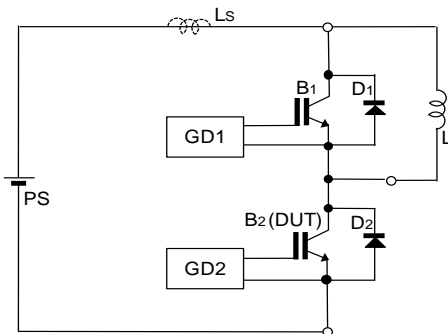
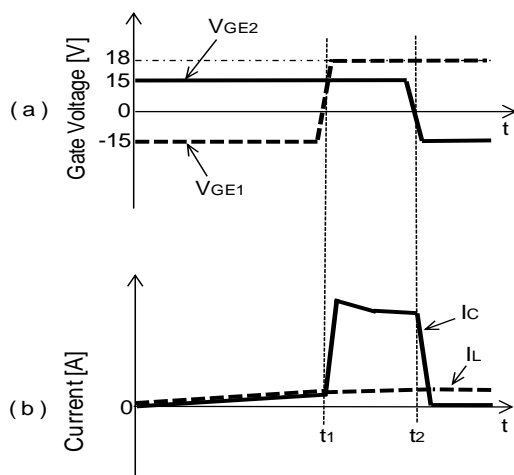
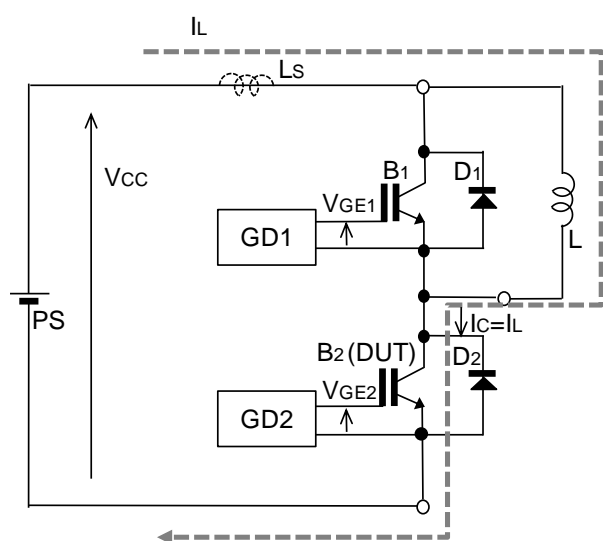
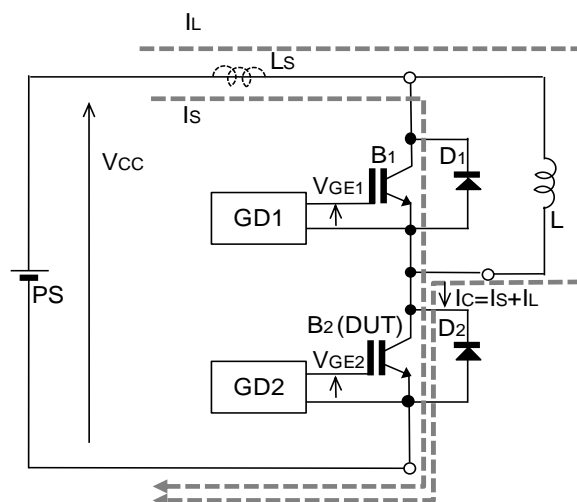

Fig.1 Half-bridge circuit.
Fig.4 Waveforms for Type 2.
Fig.5 Load current flow in Type 2.
Fig.6 Current flow in short circuit of Type 2.
A half-bridge circuit, shown in Fig.1, is generally utilized for evaluating the characteristics of IGBTs. The circuit is effective in estimating IGBT's SCSOA also, and composed of series connected two IGBTs and diodes, a power supply (PS), inductive load (L) and total stray inductance (L_s), where DUT means "Device Under Test".
Type 2 is intended to simulate a case where an on-state of the DUT is kept under power running operation of an inverter, and then short circuit of L occurs. This case also means break-down or false turn-on of the complementary IGBT (B1) under power running operation of an inverter. The case is realized by applying the gate voltage pattern of Fig.4 (a) to the circuit of Fig.1. In accordance with the pattern, during the first period, $t=0$ to t_1 , load current I_L flows as shown in Fig.5, and the complementary IGBT becomes on-state at t_1 . Then a short circuit current I_S flows as shown in Fig.6, where a collector current $I_c = I_S + I_L$. Fig.4 (b) shows the waveform of collector current I_c .